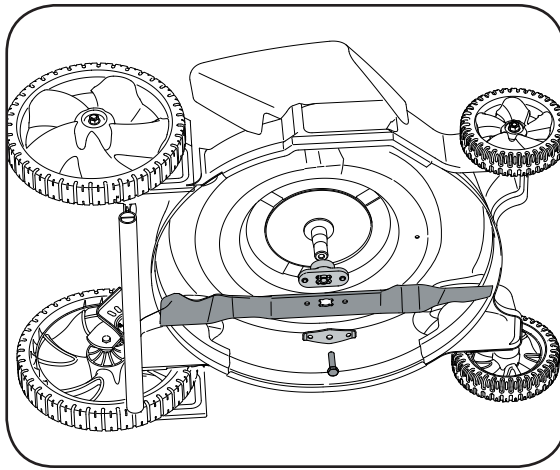

Figure 5
2. Remove the bolt and the blade bell support which hold the blade and the blade adapter to the engine crankshaft. See Figure 5.